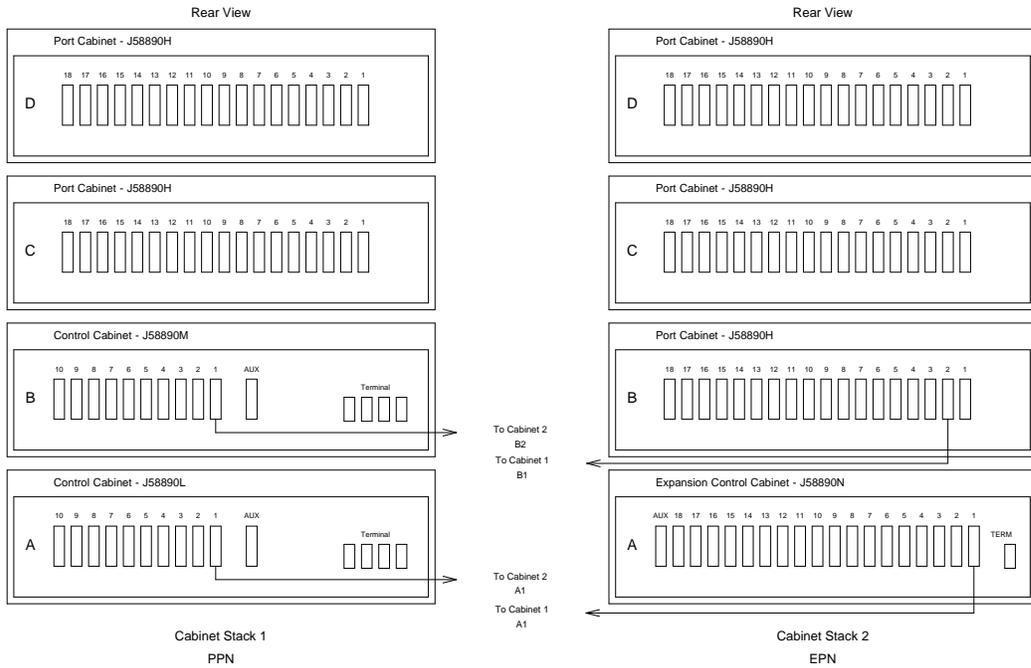
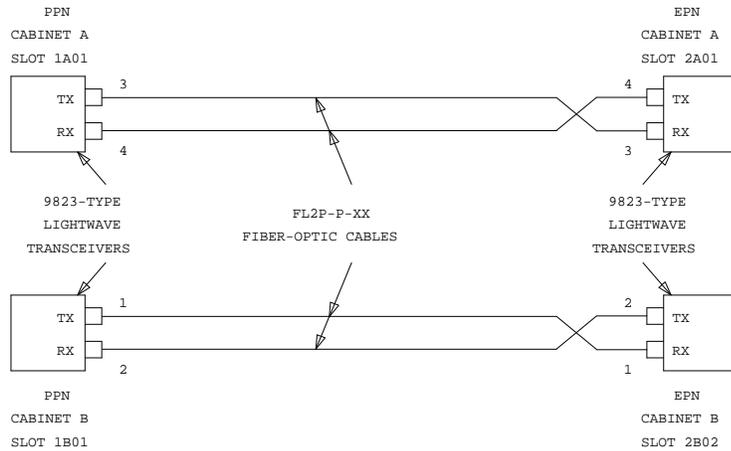
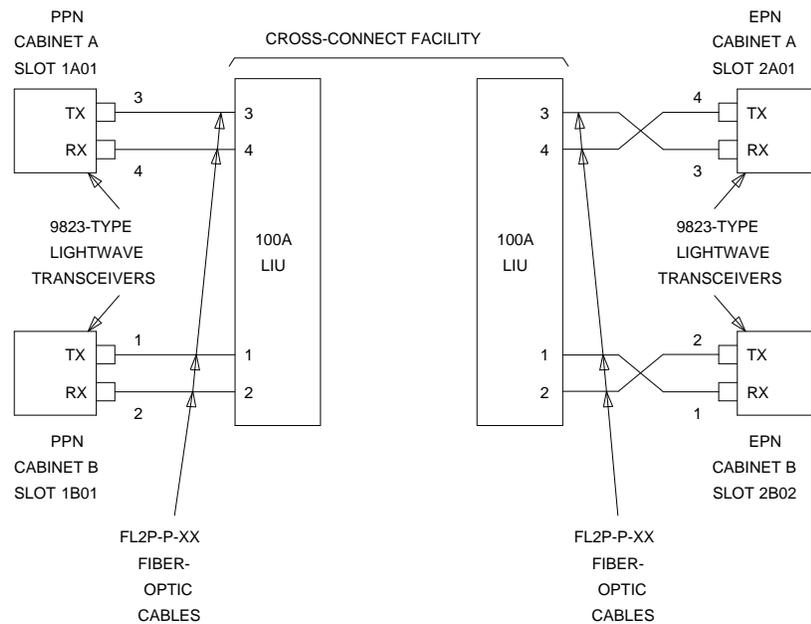

Figure 2-31. Critical-Reliability G3i V4 with Two Port Networks
Figure 2-32. With Critical Reliability
Figure 2-33. With Critical Reliability
1. Behind control cabinet A of the single-carrier PPN (see Figure 2-31 and Figure 2-32):
1. Behind control cabinet A of the single-carrier PPN (see Figure 2-31 and Figure 2-33):